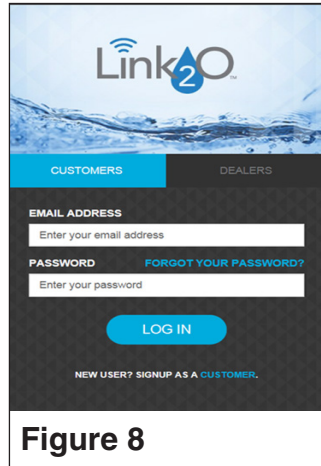

Figure 8
2. Open the Link₂O app and tap the hyperlink at the bottom of the login page (see **Figure 8**) to open the Product Information page.